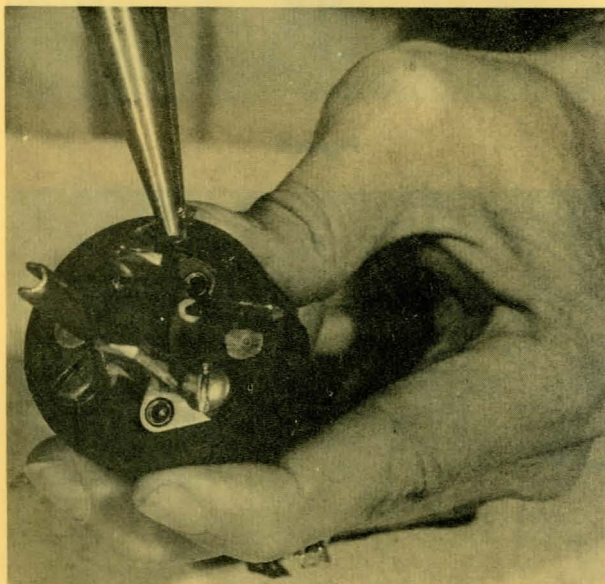

Figure 8
7. Twist the strands to form a neat bundle. Using the pliers, wrap the black wire on the brass screw, the white wire on the silver screw, and the green wire on the large round post (the grounding terminal) (Fig. 8).